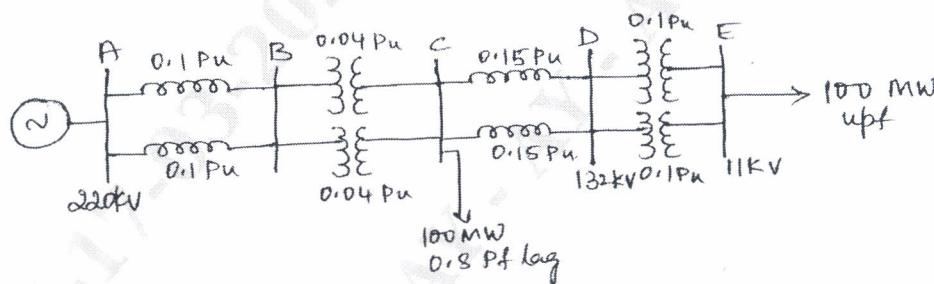

Fig.Q.8(b)
- b. The transmission system shown in Fig.Q.8(b). The P.u values are referred to the respective voltage bases and 100 MVA base. Determine the power supplied by the generator and its pf. (12 Marks)